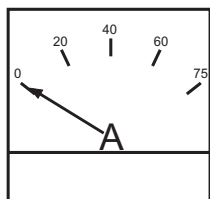

**Figure 24. Voltage Meter (Volts)**
6. The generator's voltage meter (Figure 24) displays the 120 VAC in **VOLTS**. If the voltage is not within the specified frequency tolerance, use the voltage adjustment control knob (Figure 25) to increase or decrease the desired voltage.